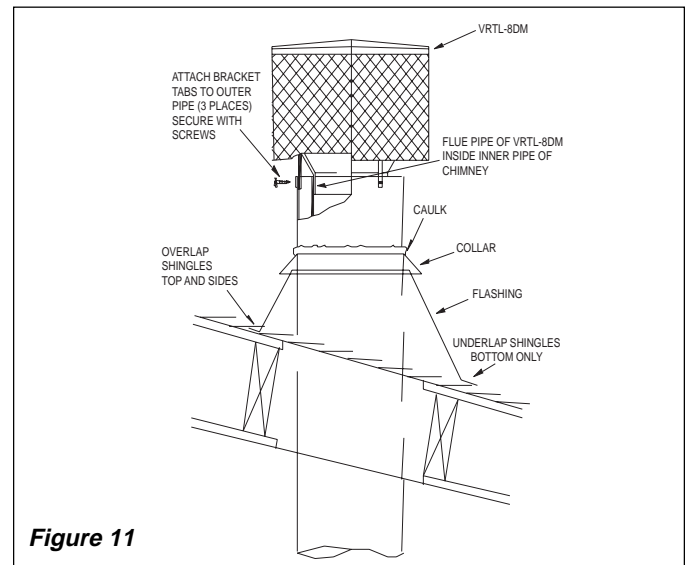

Figure 11
STEP 2: Install storm collar on double wall chimney, push collar down to flashing and seal (see Figure 11).